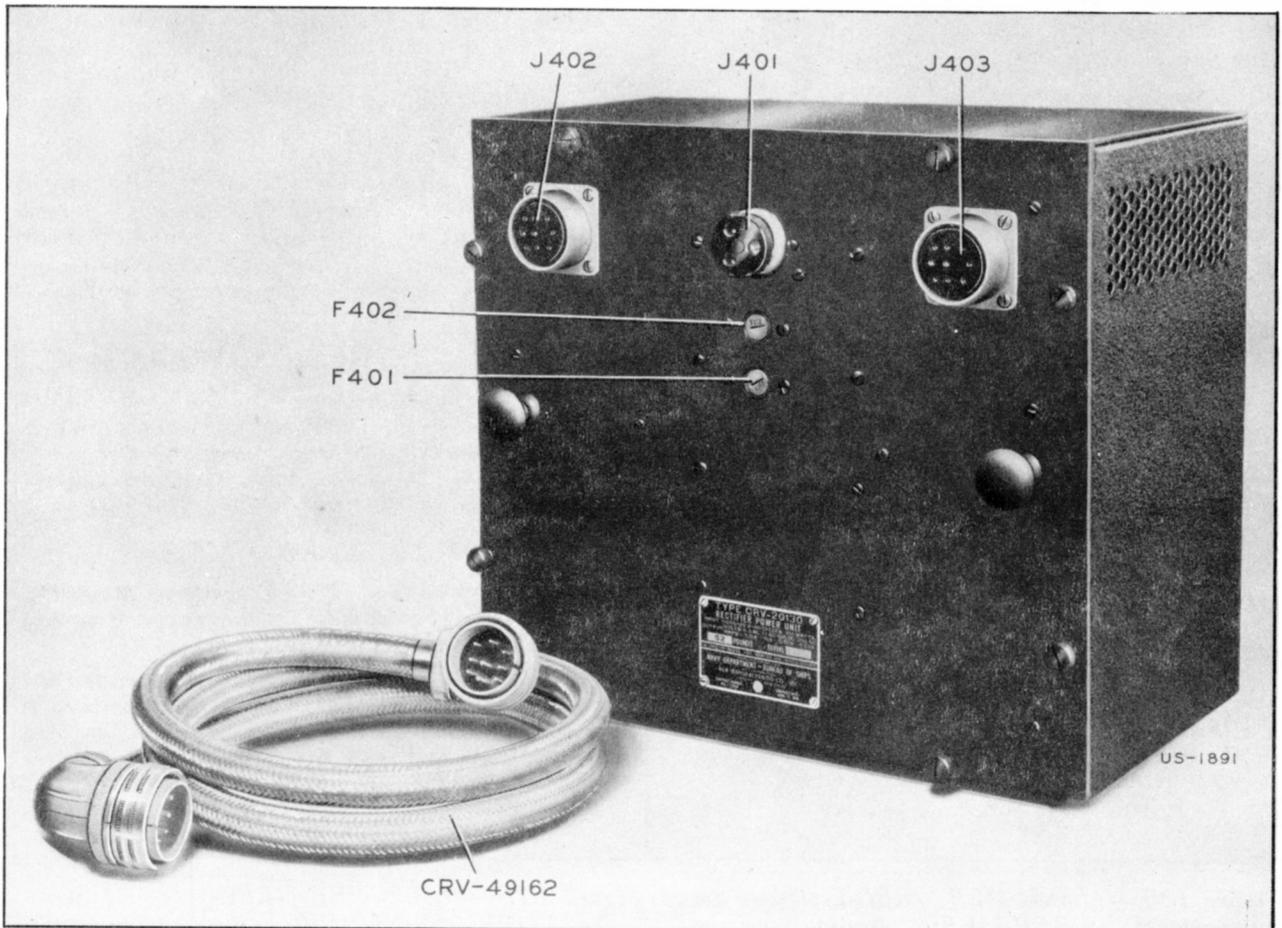

Figure 1-13 — Rectifier Power Unit, Navy Type CRV-20130 (Front View)
(1) The Rectifier Power Unit, Navy Type CRV-20130 is completely enclosed in a black wrinkle finished metal cabinet. The cabinet is arranged for permanent mounting, the panel and chassis assembly being removable for servicing or tube replacements. The panel and chassis assembly carries all circuit components and is ruggedly constructed with a protective frame around the back and sides (see Figure 1-13). The assembly is held in the cabinet by means of thumbscrews attached to the front panel, and spring stops are provided to prevent the chassis from accidentally falling out of the cabinet when partially withdrawn.
(2) Two knobs are provided on the front panel of the unit to facilitate withdrawal of the chassis. The power input and output receptacles are mounted near the top of the front panel.